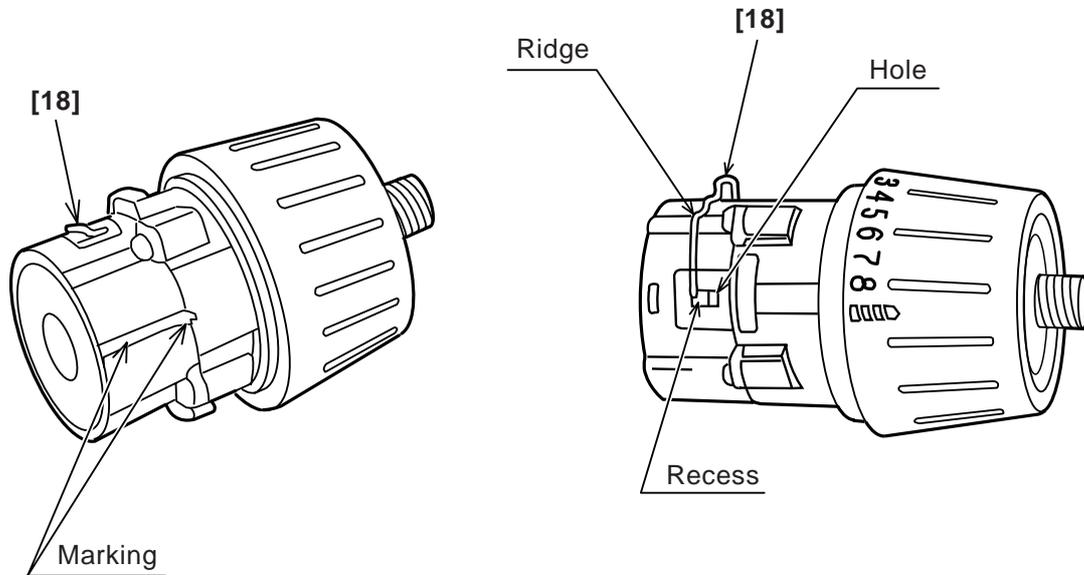

Fig. 8
(ii) Install the Front Case [11] and the Rear Case [17] together with the marking on the Front Case [11] aligned with the marking on the Rear Case [17]. (See Fig. 8.)
- (c) Install the Shift Arm [18] into the assembly reassembled in step (3) (b).
- (i) With the ridge at the Shift Arm [18] set on the Motor [27] side, first install them on the unmarked side of the assembly reassembled in step (3) (b). Then insert the projection on the Shift Arm [18] into the hole in the Rear Case [17] and make sure that the projection is fitted into the recess in the Slide Ring Gear [19] mounted within the Rear Case [17]. (See Fig. 8.)